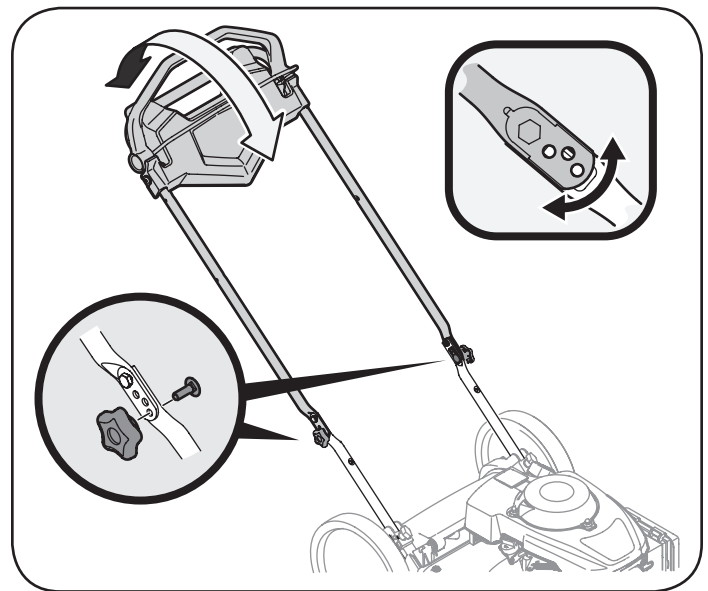

Figure 11
1. Remove star knobs and carriage bolts from handle. See Figure 11.
2. Position the handle in one of the three positions that is most comfortable. See Figure 11 inset.